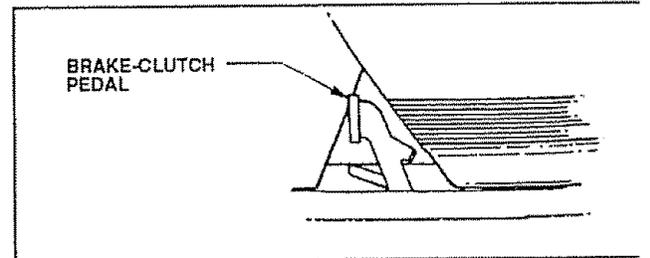

Fig. 29
TO ADJUST TRACTOR DRIVE BELT (See Figs. 29 and 30)
- The brake-clutch pedal should appear as shown in Fig. 29 when in the fully released position. If not, then the following adjustment is necessary.